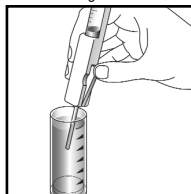

Figure 4
4. Hold the Titrettor with the sample pipe in the sample. Press the control bar firmly, but briefly, to pull in a small amount of sample. The contents will turn **BLUE** (fig. 4).
5. Press the control bar again to draw another small amount of sample into the ampoule (fig. 4).